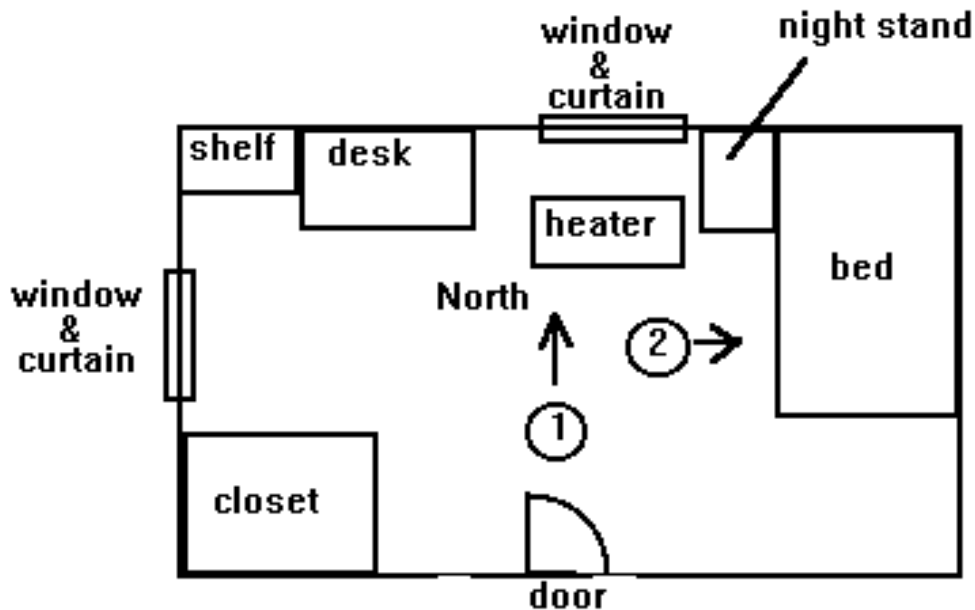

Figure 1: Sketch of bed room
- Draw a sketch of the shape of the room where the portable heater was located. Indicate the place you were standing (with a circle) and the direction you were facing (with an arrow) when you took the photograph. The numbered photographs (in sequence) should correspond to the numbered circles in the sketch. See example in Fig. 1.